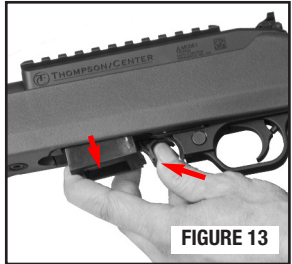

FIGURE 13
- Press the magazine release forward and remove the magazine from the rifle (FIGURE 13).